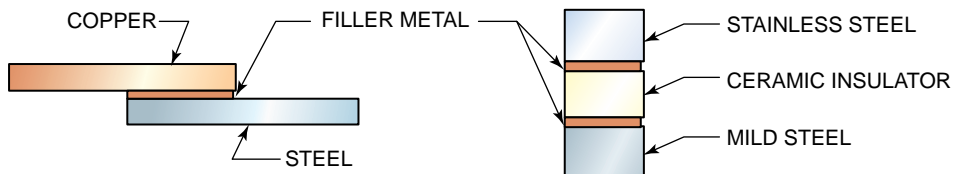

FIGURE 5-6 Dissimilar materials joined.
- Dissimilar materials can be joined—It is easy to join dissimilar metals, such as copper to steel, aluminum to brass, and cast iron to stainless steel, **Figure 5-6**. It is also possible to join nonmetals to each other or nonmetals to metals. Ceramics are easily brazed to each other or to metals.